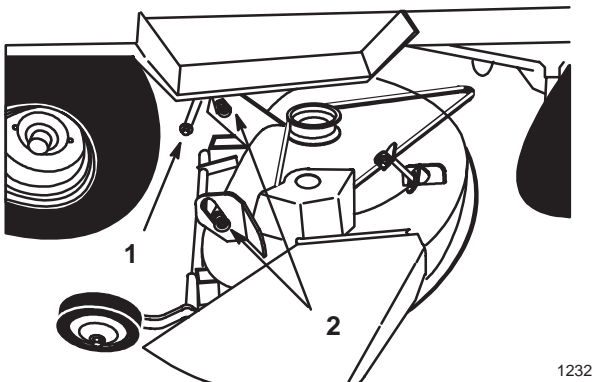

Figure 3
3. Slide the mower under the chassis from the right side (Fig. 3) and align rear mounting bushings with ends of lift arms.